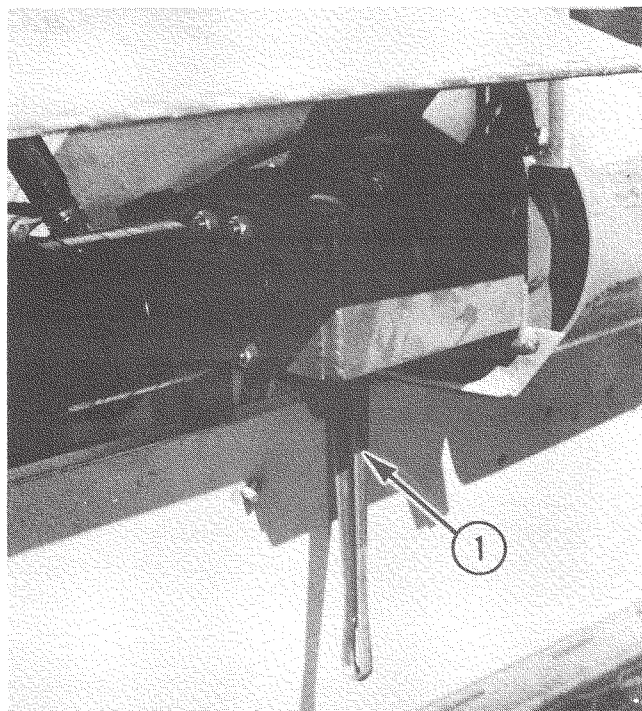

Figure 27. Lock Left Conveyor Head Pulley
- With engine off remove plug (5) and install a 3000 psi gage with necessary adapters to hook to a 1/4 SAE o ring port (04MB).
- Hold (lock) the left conveyor head pulley with a pipe wrench or other suitable tool. (Fig. 27) **Use caution when doing this operation. Be sure wrench is securely positioned on U-joint rotated by hand against supporting steel so it cannot rotate further.**
- With engine off remove plug (9) and install a 3000 psi gage with necessary adapters to hook to a 1/4 SAE o ring port (04MB).
- Hold (lock) the left conveyor head pulley with a pipe wrench or other suitable tool. (Fig. 27). **Use caution when doing this operation. Be sure wrench is securely positioned on U-joint & rotated by hand against supporting steel so it cannot rotate further.**